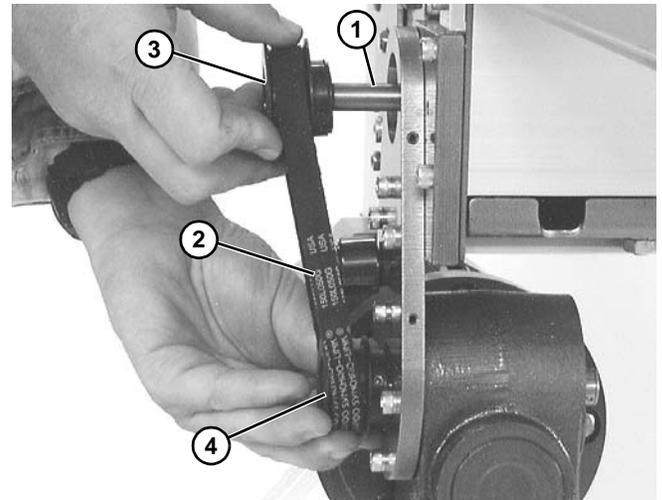

Figure 8
- Install key (**Figure 8, item 1**).
- Wrap timing belt (**Figure 8, item 2**) around driven pulley (**Figure 8, item 3**) and drive pulley (**Figure 8, item 4**). Install driven pulley (**Figure 8, item 3**) onto conveyor shaft.